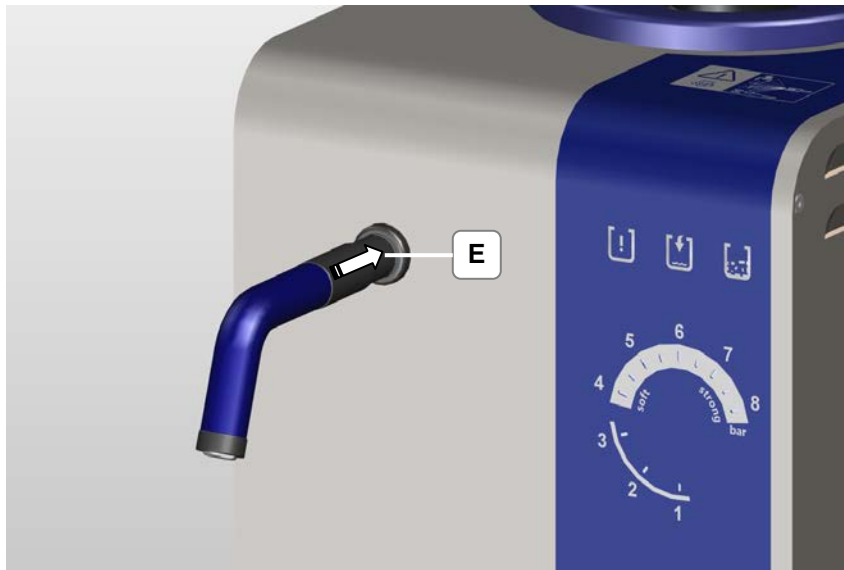

Figure 4.2.3: Pushing on the black protective cover onto the nut
5. Slide the black protective cover in the arrow direction over the nut (Figure 4.2.3).